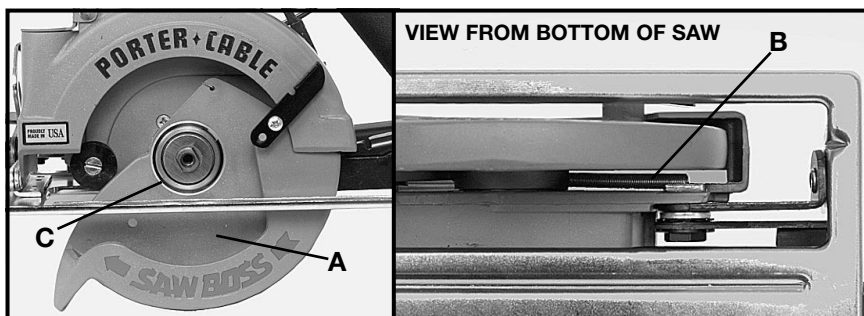

Fig. 3
**⚠ WARNING:** The telescoping guard (A), Fig. 3, is a safety device important to your protection. Everytime you use the saw, see that the telescoping guard rotates freely and returns quickly and completely to its closed position. Frequently check the retracting spring (B), Fig. 3, to see that it is functional and free of foreign matter. At least once a month, remove any accumulated sawdust, pitch, etc. from the area around the hub (C) of the telescoping guard, and add a few drops of light machine oil at each end of the hub. NEVER block or wedge the telescoping guard in the open position.